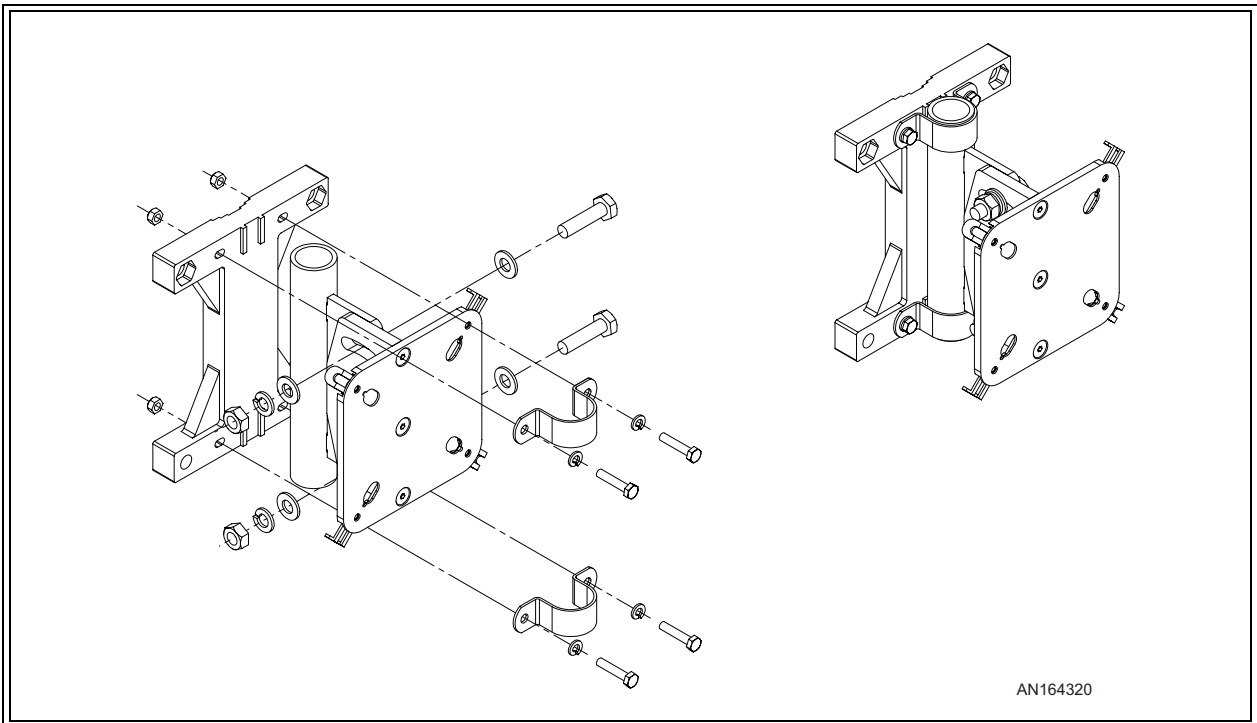

Figure 4-13 Adjustable Elevation Dual Aeras WaveLink Mounting Bracket Assembly (one side only)
- D On each side of the pole mount bracket assembly, assemble the rest of the Aeras WaveLink mounting bracket assembly parts as shown in Figure 4-13.